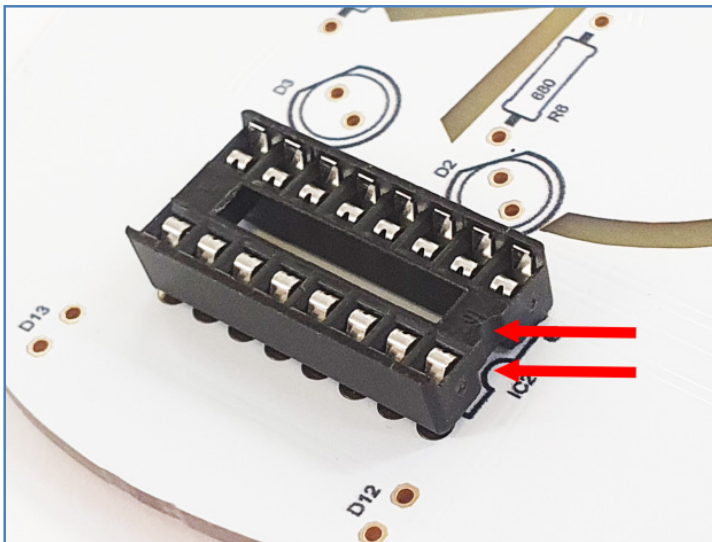

Fig. 5
Step 3) Place the IC sockets as marked on the PCB. Note the notch at one end of the socket – this notch has to match the notch printed on the PCB (Fig. 5). Insert the IC in the socket, making sure the notches match up. The pins of the IC might have to be bent in slightly inwards to fit in the socket.